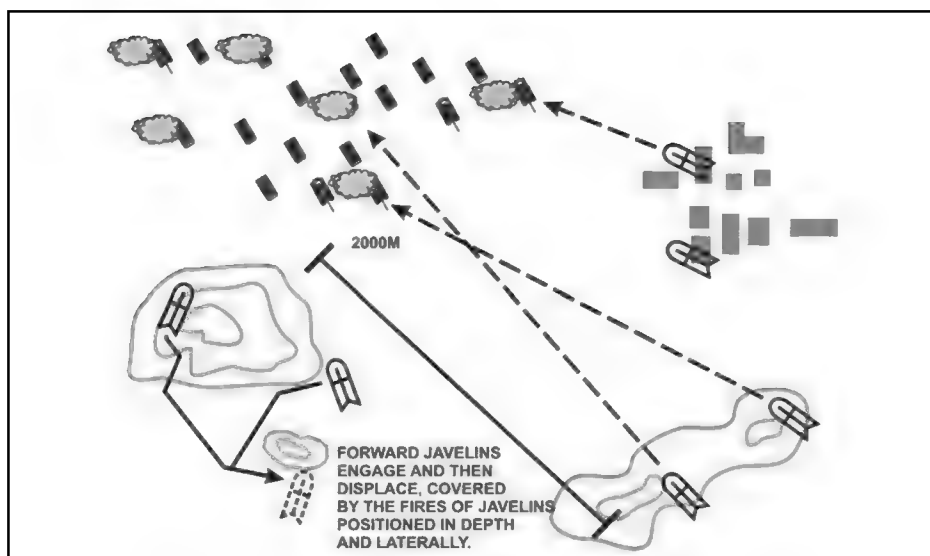

Figure 4-3. Javelins positioned in depth.
f. **Employ in Depth.** Javelin fire should be employed in depth. By employing the Javelins in depth in conjunction with integrated fires and obstacles, the commander prevents the enemy from easily engaging friendly antiarmor systems and slows and canalizes the enemy advance (Figure 4-3). This increases engagement times for all antiarmor systems and the probability of achieving a hit. Positions are selected to capitalize on the Javelin's 2,000-meter range.